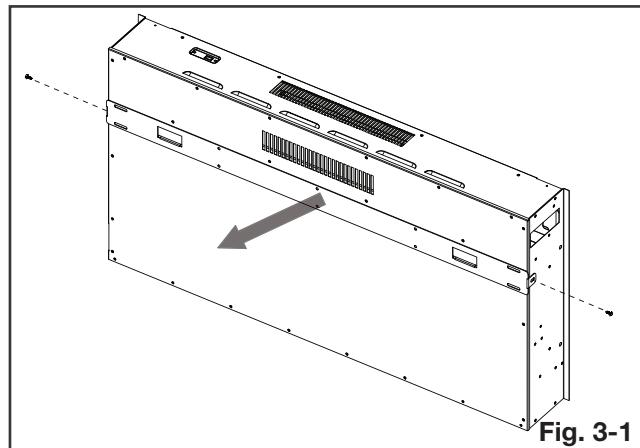

Fig. 3-1
- D.** Place the appliance face down on a soft, non-abrasive surface. Remove the wall mounting bracket from the back of the appliance by removing the screws (**Fig. 3-1**). Set the bracket and screws aside.